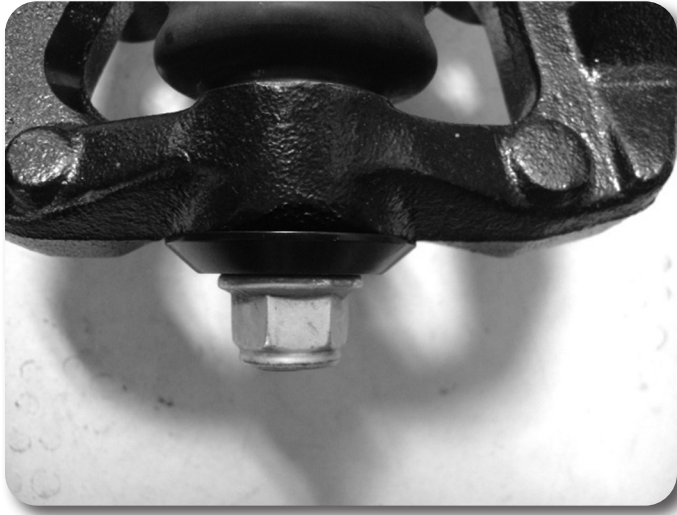

Figure 22B
46. Install the new knuckle assembly on the lower control arm ball joint and loosely fasten with the original nut, use the included large machined washer, center on the lower ball joint boss before tightening. Install the CV shaft in the hub, swing the whole assembly up and attach the lower control arm to the strut with the original hardware. Leave all hardware loose. **Figure 22B**